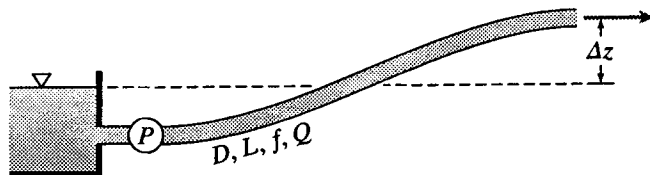

Figure X8.28.2
8.28.3 A 250-mm pipeline ($f = 0.025$) is 4.7 km long (Fig. X8.28.2). When pumping 100 L/s of water through it, with a total actual lift of 10.5 m, how much power is required? The pump efficiency is 75 percent.